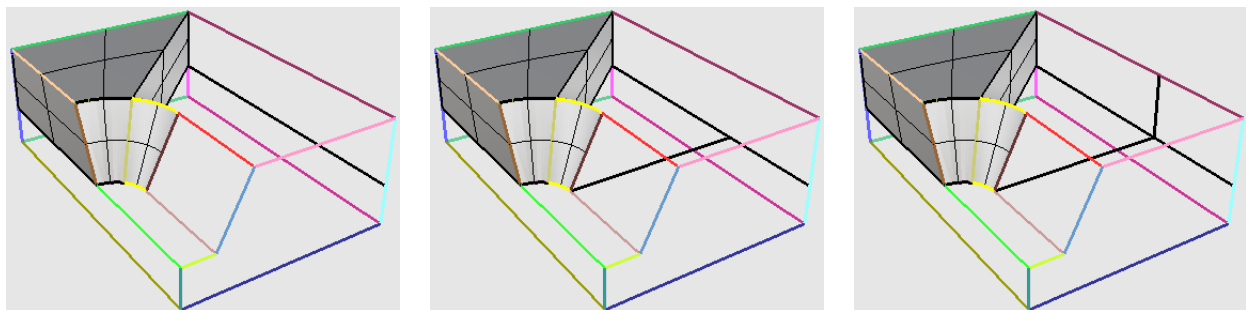

Figure 71: Building a curved surface (left) and additional construction lines
1. Retrace the remaining 2 **eighth circles** (highlighted in Figure 71, left) using **Curve|Arc|Start, Point, End**, then use **Loft** to build the **surface** between the two (Figure 71, left).